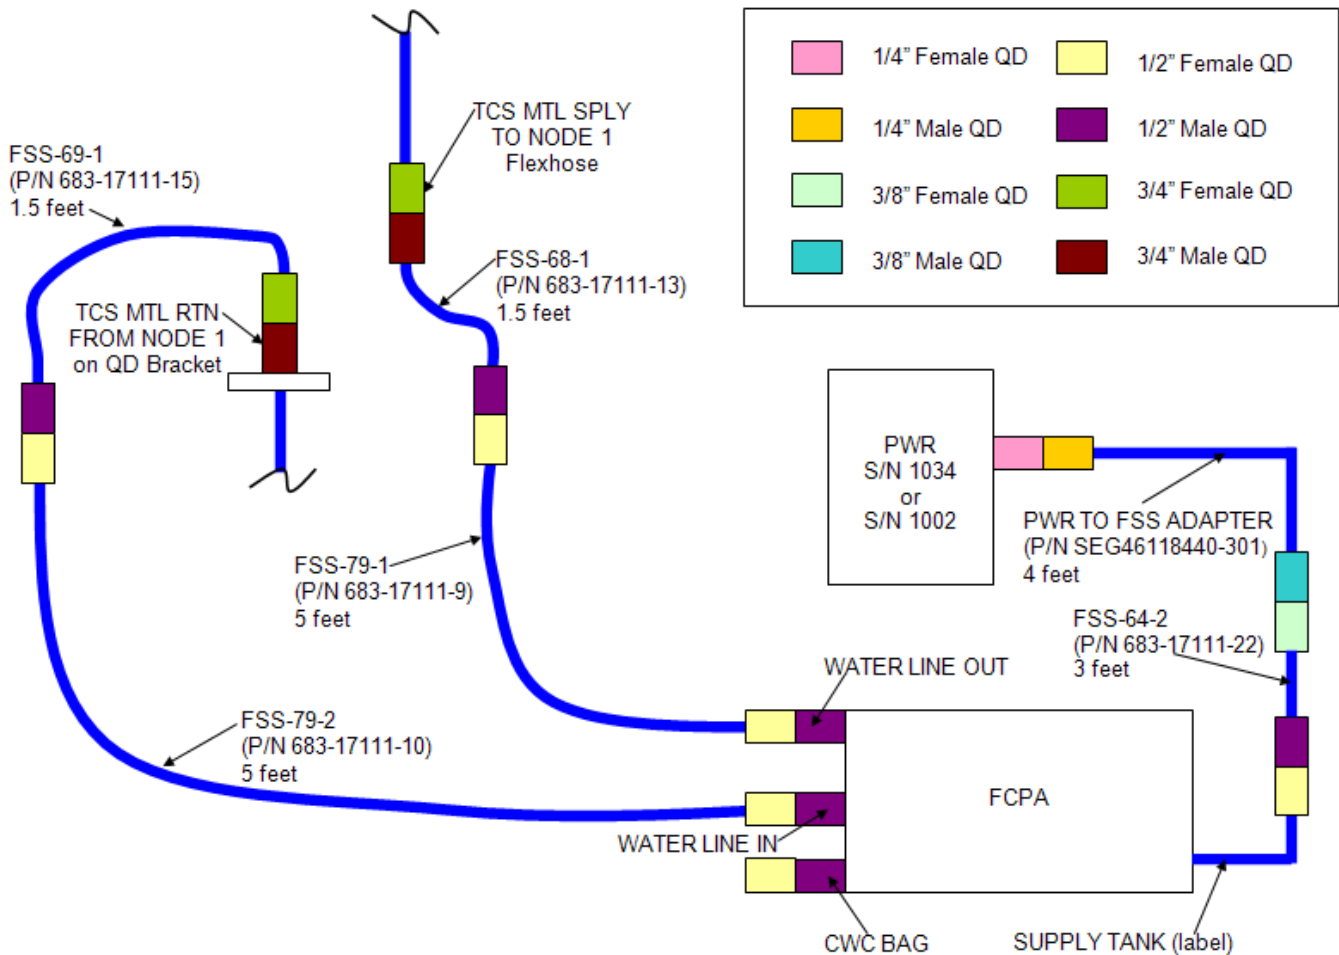

Figure 19.- FSS and Jumper Configuration for Node 3-Node 1 ITCS Fill.
2. PWR S/N 1034 and associated jumpers shown in Figure 19 will not be connected until step 30.
Refer to Figure 19.